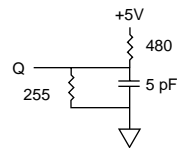

Fig. 2 OUTPUT LOAD EQUIVALENT
6. ^tLZCE, ^tLZOE, ^tLZWE, ^tHZCE, ^tHZOE and ^tHZWE are specified with CL = 5 pF as in Fig. 2. Transition is measured ± 200mV typical from steady state voltage, allowing for actual tester RC time constant.